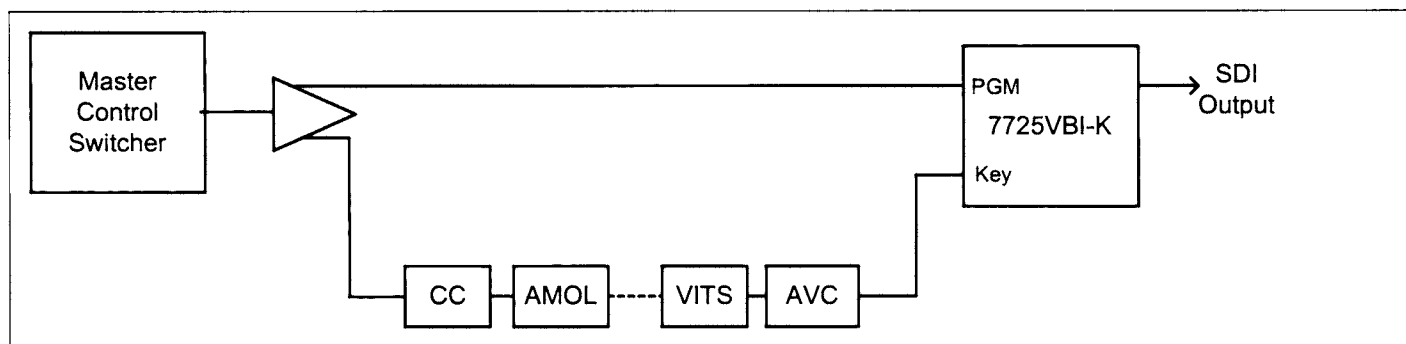

Figure 2: Master Control VBI Insertion Application
- Figure 2: Master Control VBI Insertion Application 2